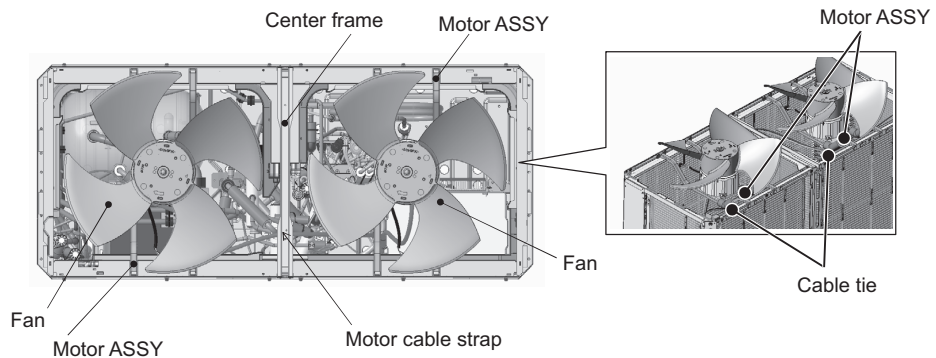

Figure 9
- (11) Unstrap the cable from the cable strap on the middle frame. (See Figure 9.)
- (12) Remove the cable tie that is holding the motor ASSY and the unit wiring.
- Remove the motor ASSY by unscrewing the eight screws, using caution not to disconnect the motor wiring or not to damage the fan. (See Figure 9.)